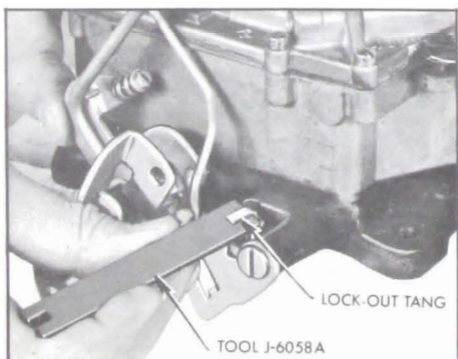

Figure 3-57—Adjusting Secondary Lock-Out
6. If clearance between tang and lock-out step is not correct, bend tang as required to obtain this clearance using Tool J-6058A. See Figure 3-57.